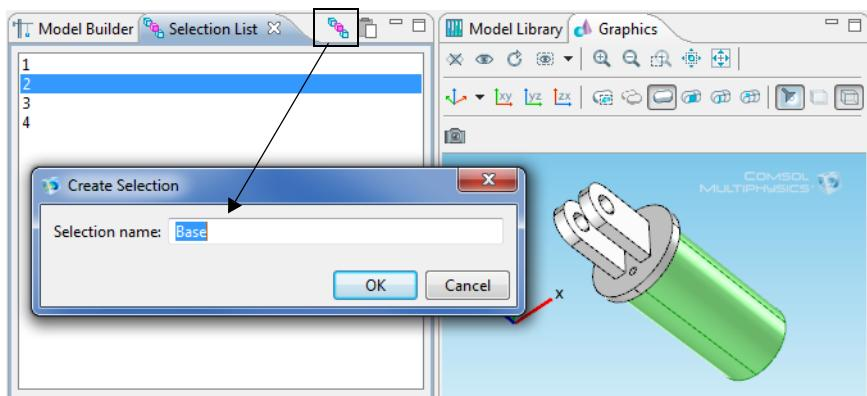

Figure 5-7: Creating a selection from the Selection List window.
- 3** Click the **Create Selection** button () and enter a **Selection name** in the window that opens. See Figure 5-7.